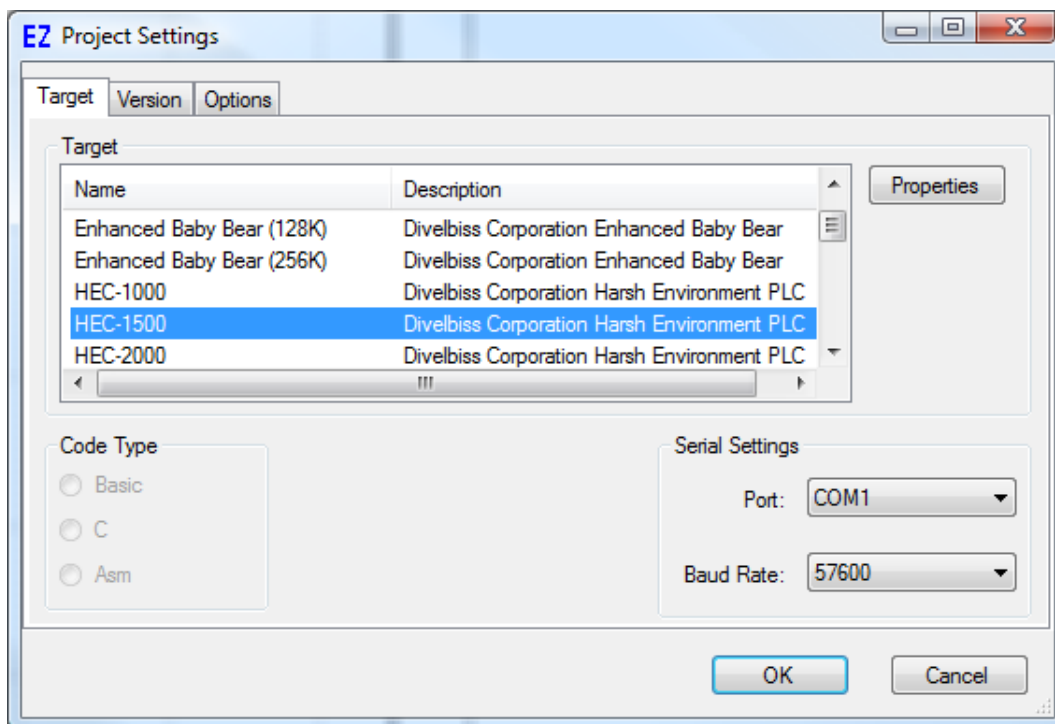

Figure 1.1 - Project Settings Window
1. In EZ LADDER, from the File Menu at the top, click **PROJECT** then **SETTINGS**. This will open the Project Settings Window. Select **HEC-1500** as the target from the choices. Refer to Figure 1.1. Verify the Port is correct and the baud rate is 57600.